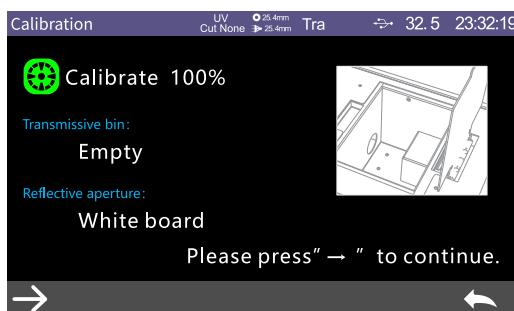

Figure 8 100% Calibration
- 2、 After finishing 0% calibration, enter 100% calibration ,take out the black plate, place the white calibration reference according to prompt, ensure it stick to the side of integrating sphere tightly, close the bin cover, and press test key to start calibration.as shown in Figure 8.
- 2、 After finishing 0% calibration, enter 100% calibration ,take out the black plate, place the white calibration reference according to prompt, close the bin cover, and press test key to start calibration.as shown in Figure 8.